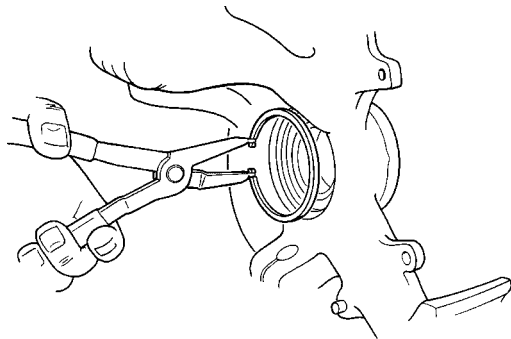
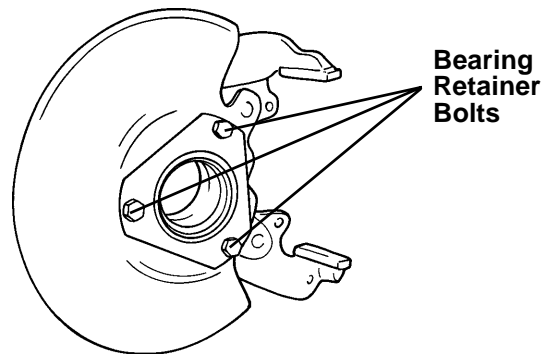

Figure 9
Figure 10
11. Remove the snap ring from the appropriate side of the spindle assembly. See Figure 9. **Note: On Chrysler vehicles, with the exception of Neon, remove the three bolts from the bearing retainer as shown in Fig. 10. On Neon vehicles, remove the snap ring from the inboard (CV joint) side of the knuckle.**